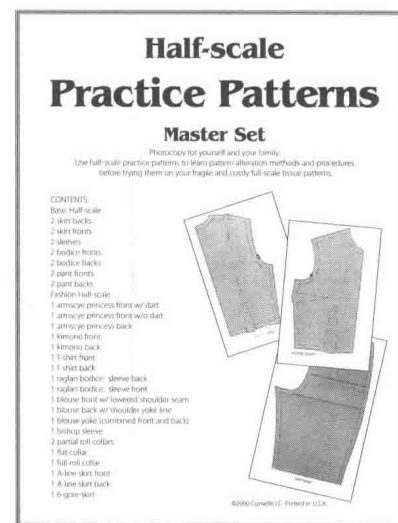

FIGURE 1.6 Half-scale practice patterns facilitate learning how to alter a pattern.
- **Half-scale practice patterns:** Highly recommended, these small patterns are invaluable to the process of learning to adjust patterns (see Figure 1.6). You can practice an alteration on the appropriate, easy-to-handle, half-scale sized pattern before you cut into your expensive, full-scale fashion pattern. (Quarter-scale patterns are also available, but experience has shown that these are usually too small to easily learn with.)